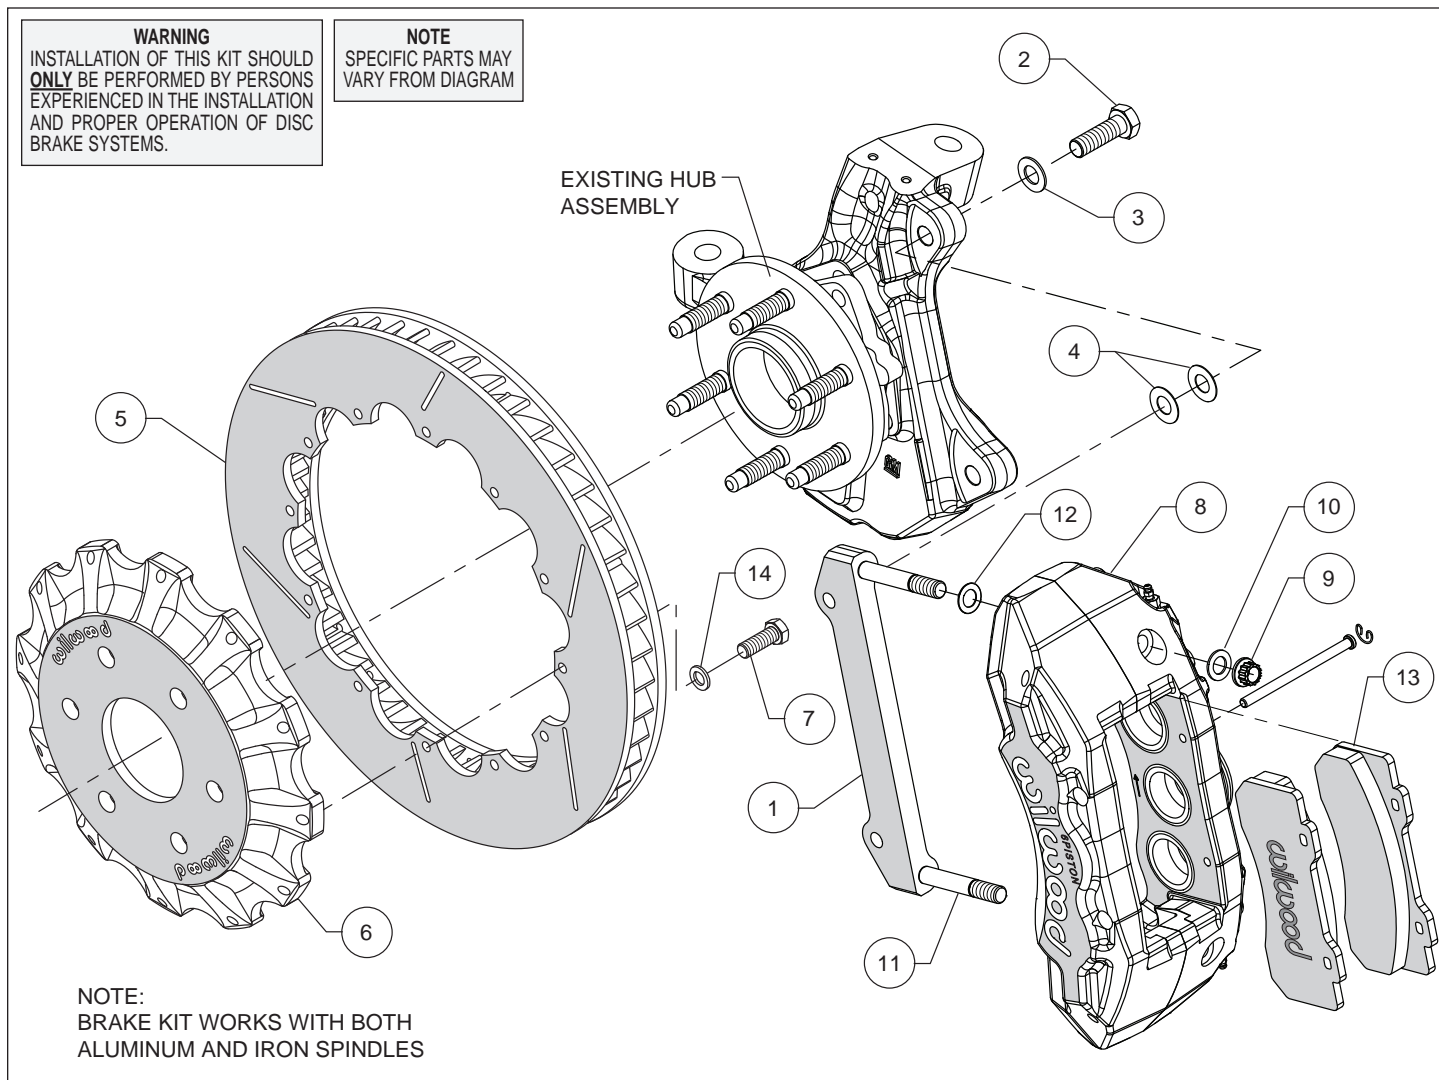
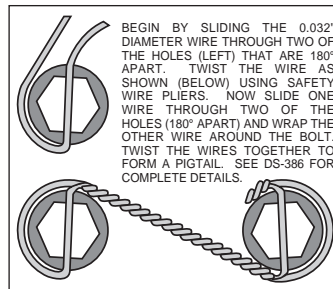

Figure 1. Typical Installation Configuration
Figure 3. Safety Wire Diagram
Assembly Instructions (numbers in parenthesis refer to the parts list and Figure 1 on the preceding pages):
- The caliper mount bracket (1) should initially be installed with clean, dry threads on the mounting bolts. Orient the bracket as shown in Figure 1 and Photo 1, and install using bolts (2) and washers (3). Initially place two .029 thick shims (4) on each bolt between the bracket and upright, Figure 1. Temporarily tighten the mounting bolts. **NOTE:** *The bracket must fit squarely against the mount bosses on the upright.* Inspect for interference from casting irregularities, machining ridges, burrs, etc. Later, after the caliper alignment has been checked, the mount bolts will be secured using red *Loctite*® 271.
- Orient the rotor (5) and the hat (6) as shown in Figure 1 and Photo 2. Attach rotor to hat using bolts (7) and washers (14). Using an alternating sequence, torque to 25 ft-lbs. For an added measure of security, the bolts may be safety wired using standard 0.032 inch diameter stainless steel safety wire as shown in Figure 3. Please refer to Wilwood's data sheet DS-386 (available at www.wilwood.com/Pdf/DataSheets/ds386.pdf) for complete safety wire installation instructions.
- NOTE:** *This kit contains distinct right and left hand calipers that must be mounted in a specific direction, as described below.* Lubricate the caliper mounting studs (11) with lightweight oil. Initially place one .032" thick shim (12) on each stud as shown in Figure 1 and Photo 3. Mount the caliper (8) onto the bracket (1) using lock nuts (9) and washers (10), Figure 1. Ensure that the caliper is mounted so that the largest pistons are at the rotor exit end of the caliper, in relation to the direction of rotor rotation. Temporarily tighten the lock nuts and view the rotor through the top opening of the caliper. The rotor should be centered in the caliper, Photo 4. If not, adjust by adding or subtracting shims (4) between the bracket and the upright. Always use the same amount of shims on each of the two mounting bolts. Once the caliper alignment is correct, remove the bracket mounting bolts (2) one at a time, apply red *Loctite*® 271 to the threads, and torque to 77 ft-lb.